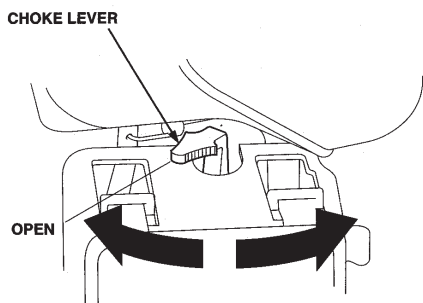

Figure 11. Engine Choke Lever (Open)
3. Place the *choke lever* (Figure 11) in the "OPEN" position if starting a *warm engine* or the *temperature is warm*.